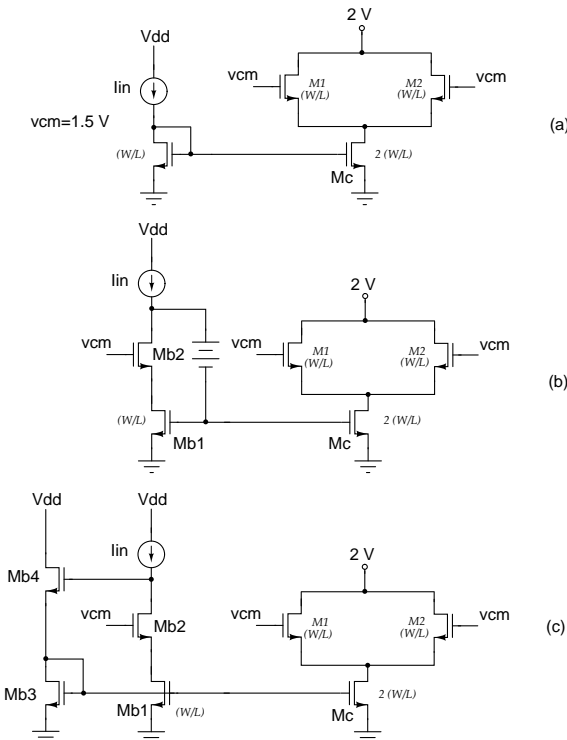

Figure 4: Evolution of precision biasing.
- b. Consider now the improved scheme shown in Figure 4(b) & (c). Explain why this is an improvement. What should the minimum value of the battery potential be to make the circuit operate as intended? Which of the devices need to be operated at the same current density? i.e. Mc and $Mb1$ should be of the same current density etc. Similarly what can you say about $Mb2$, $Mb3$ and $Mb4$?
- a. The first thing that comes to mind is a mirror, as shown in Figure 4(a). Assume that $M1$ and Mc has a gate-source voltage $V_T + \Delta v$ and an output impedance r_{out} . $v_{\text{cm}} = 1.5\ \text{V}$. What is the error in the current of $M1$ as a percentage of I_{in} ? Sweep v_{cm} from $0.5 - 2.0\ \text{V}$ and plot